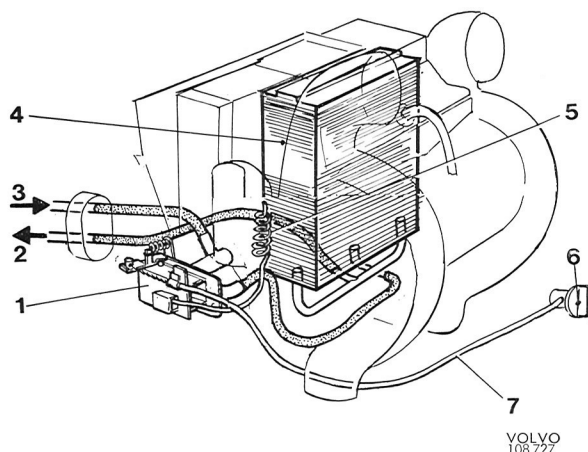

Fig. 8-46. Heating system
The heater system in the combined unit consists of a cell assembly and a heater control valve. The cell assembly (4, Fig. 8-46) is located in the central unit while the heater control valve (1) is placed underneath.